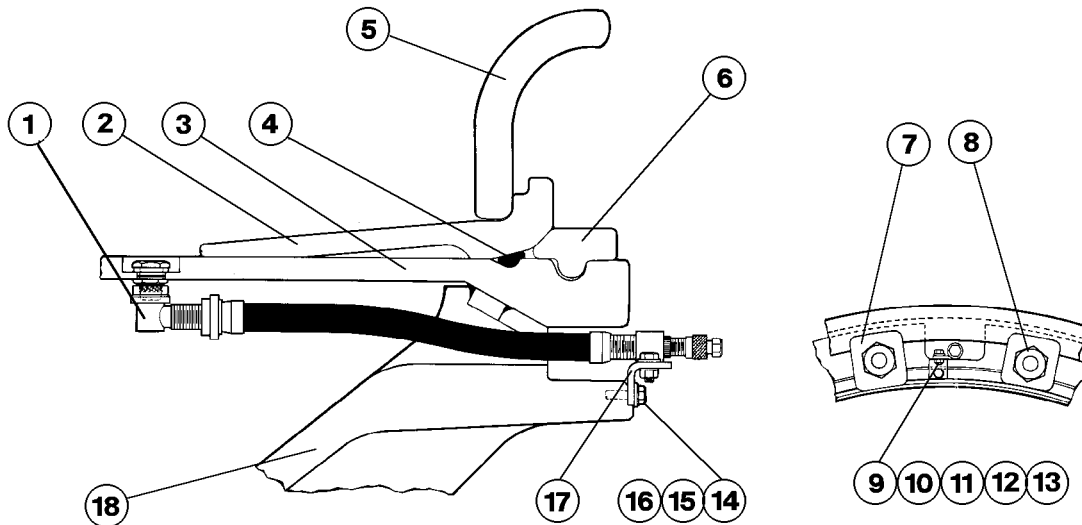

FIGURE 2-2. FRONT WHEEL ASSEMBLY
6. Grip tire and wheel assembly with tire handler. Remove wheel nuts (8, Figure 2-2), and wheel retainer lugs (7) securing wheel assembly to wheel hub. Remove the clamp that secures the tire inflation valve to the wheel hub.